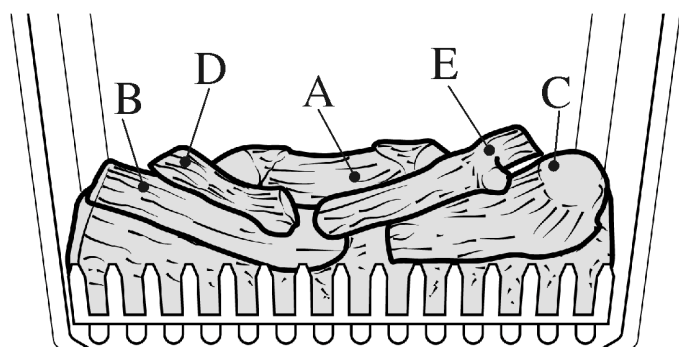

Figure 1b
**Log versions:** Place logs "A", "B" and "C" into the recesses in the plastic fuel support. See figure 1b. Logs "D" and "E" can be placed wherever you prefer (Figure 1b gives one suggestion).